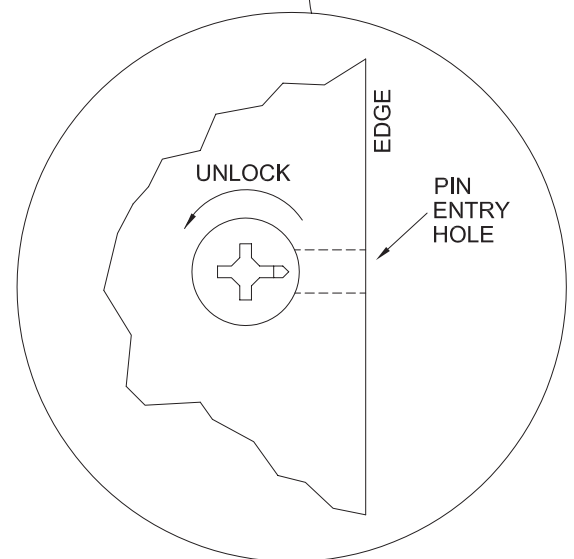

FIGURE 2
From the back side of the cabinet turn (2) cams on only one end of cabinet counter clockwise approx $\frac{1}{2}$ turn. See Figure 2